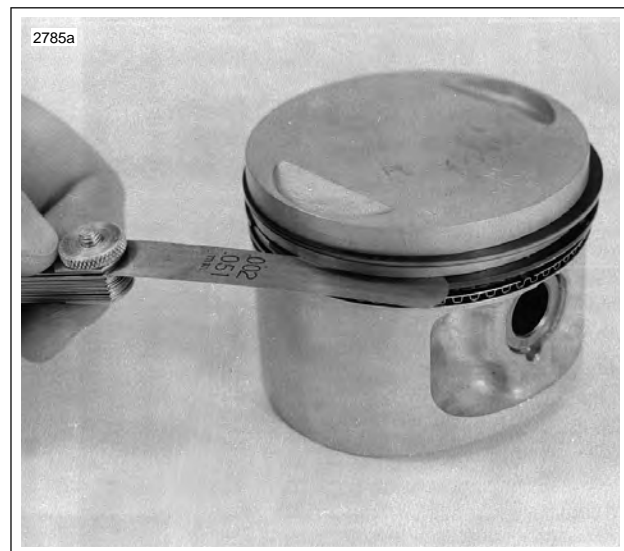

Figure 3-37. Measuring Ring Clearance in Groove
4. See Figure 3-37. Check for proper side clearance with thickness gauge, as shown. See 3.1 SPECIFICATIONS for tolerance.